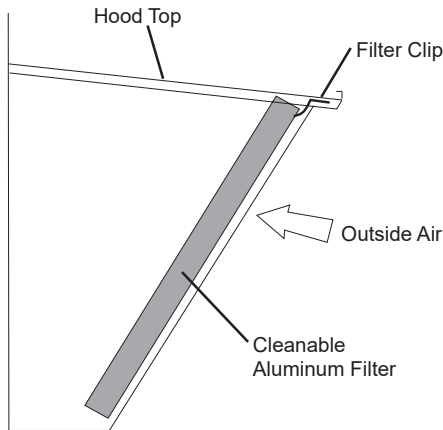

Fig. 4 - Filter Installation
12. Open the filter clips on the inside of the hood top. Insert the aluminum filter into the hood and close the clips to hold in place. See Fig. 4.
14. Remove the aluminum filter (Fig. 4) to adjust the settings on the economizer controller. Review the settings in the Operation section: